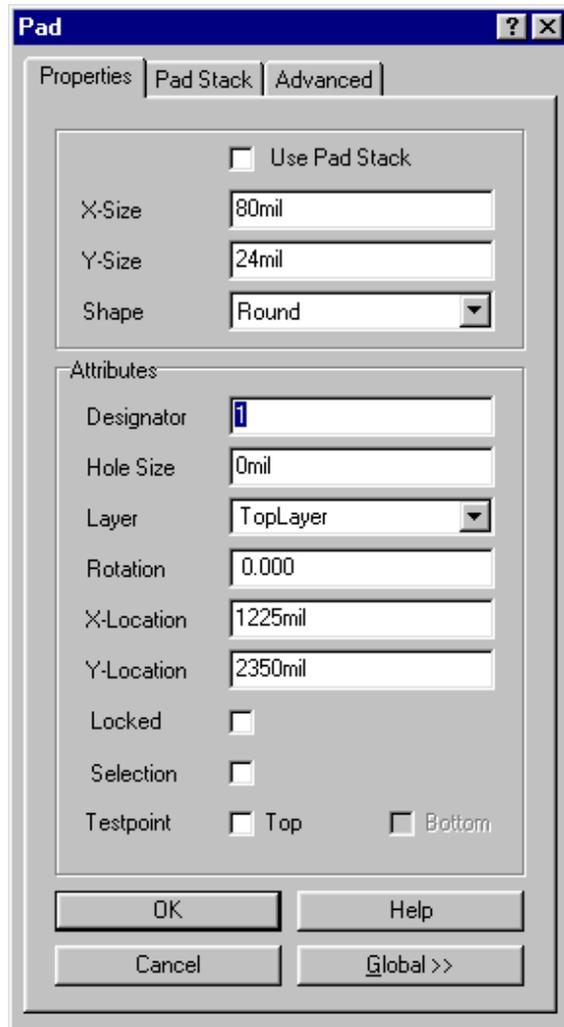

Figure 33 Via Properties dialog box
- Pad properties are set in the Pad dialog box that is displayed by pressing the TAB key while placing the pad or double-clicking on a placed pad. This dialog box has a Properties tab, a Pad Stack tab and an Advanced tab. (See Figure 33) In the Properties tab you can set the pad size, shape, hole size, layer and rotation.